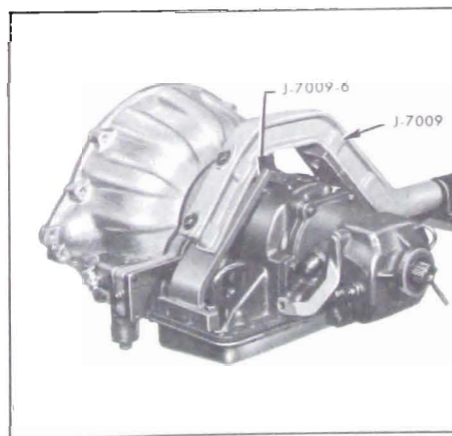

Figure 5-30—Transmission Assembled To Fixture J-7009
2. Place transmission on a CLEAN work bench and use CLEAN tools during disassembly and assembly. Provide CLEAN storage space for parts and units removed from transmission. An excellent working arrangement is provided by assembling the transmission to holding fixture J-7009. See Figure 5-30.